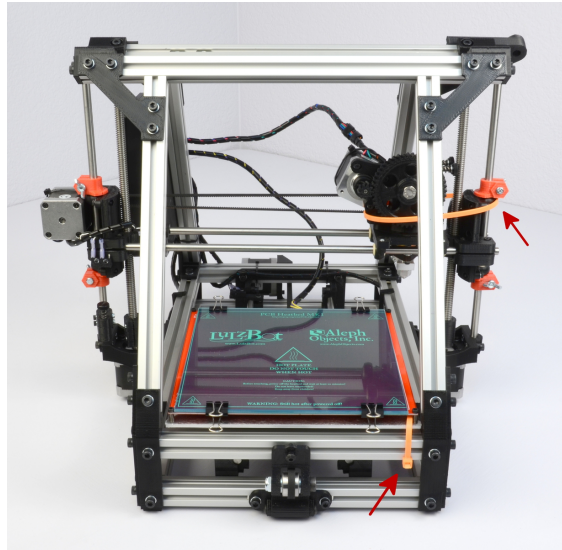

Figure 1: Orange Zip Ties
8. Using scissors or wire cutters, cut and remove the two ORANGE plastic zip ties (Fig. 1). One zip tie is located on the bottom front of the printer on the print bed. The other zip tie is around the extruder carriage and X axis. Make sure to not cut any of the surrounding wires or belts.